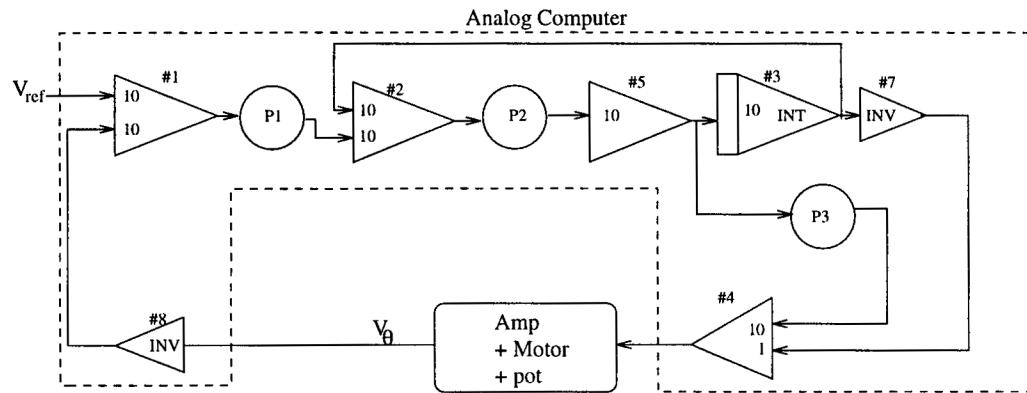

Figure 6.2. Wiring diagram for motor with lead controller
(e) The lead controllers will be implemented using the wiring diagram shown in Figure 6.2. Analyze this diagram and show that the potentiometer settings P_1 , P_2 and P_3 are related to the controller parameters K_c , τ_z , and τ_p by the set of Equations (6.2) below.
Connect the waveform generator to amplifier #1 on the analog computer as shown in Figure 6.2.
- Wire the analog computer as shown in Figure 6.2. The output of the amplifier #4 on the analog computer should be connected to the **Input Amplifier** on the patch panel. To do this, take one end of the grey cable (the one with three leads on each end) and connect the red lead to the analog computer output. Connect the black and white leads to the analog computer ground. Take the other end of the grey cable and connect the red lead to Ref+ of the **Input Amplifier**. Connect the black and white leads to the black and white jacks of the Input Amplifier. Connect the motor to the **Output Amplifier** by using the other grey cable. Short out the unused amplifier #6.